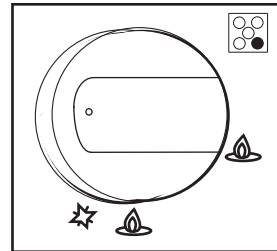

fig. 5
- Turn the knob (fig. 5) corresponding to the selected burner in a counter-clockwise direction so that the knob is at **MAXIMUM** (this corresponds to a large flame).
- Turn the knob (fig. 5) corresponding to the selected burner in a counter-clockwise direction so that the knob is at **MAXIMUM**.